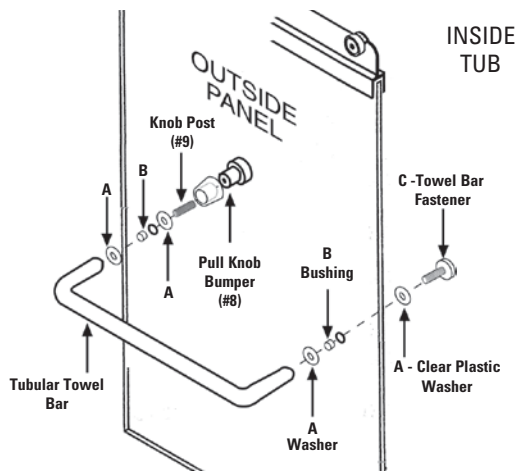

Figure 9A
- F. Repeat step 10-D and 10-E on the other hole drilled through glass of the Outside Door Panel (#5), to complete installation of the Tubular Towel Bar Kit (#7) (See Figure 9A).
- I. Locate the Back-to-Back Barrel Knob with Recessed Finger Pull (#8) which contains one (1) Barrel Knob (#8), one (1) Recessed Finger Pull (#8), one (1) Finger Pull Bushing (#7B), and two (2) Finger Pull Washers (#7A). Refer to the IPB Drawing to help identify these parts (See Figure 9A).